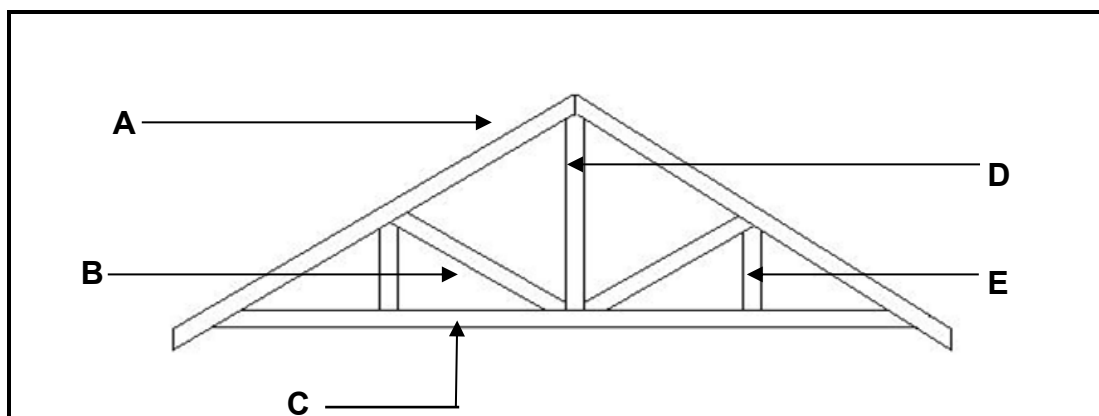

FIGURE 3.1
3.1 Answer the following questions with regard to the roof truss in FIGURE 3.1.